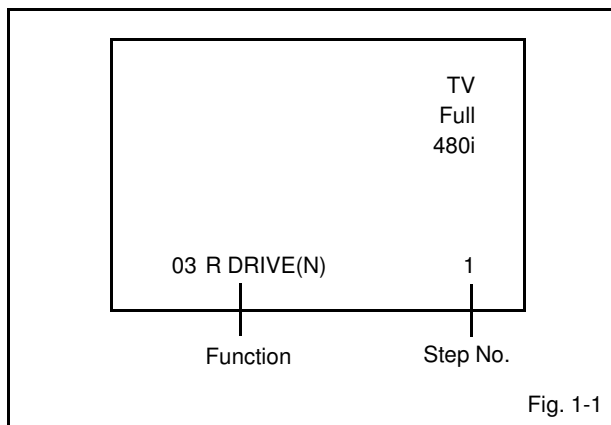

Fig. 1-1
2. Press the VOL. DOWN button on the set and the channel button (**9**) on the remote control for more than 2 seconds to display adjustment mode on the screen as shown in **Fig. 1-1**.
5. Activate the adjustment mode display of **Fig. 1-1** and press the channel button (**03**) on the remote control to select "R DRIVE (N)".
6. Press the UP/DOWN button on the remote control to select the "R CUTOFF (N)", "B DRIVE (N)", "B CUTOFF (N)", "R DRIVE (C)", "R CUTOFF (C)", "B DRIVE (C)", "B CUTOFF (C)", "R DRIVE (W)", "R CUTOFF (W)", "B DRIVE (W)" or "B CUTOFF (W)".
7. Adjust the LEFT/RIGHT button on the remote control to whiten the R DRIVE (N), R CUTOFF (N), B DRIVE (N), B CUTOFF (N), R DRIVE (C), R CUTOFF (C), B DRIVE (C), B CUTOFF (C), R DRIVE (W), R CUTOFF (W), B DRIVE (W) and B CUTOFF (W) at each step tone sections equally.
4. Activate the adjustment mode display of **Fig. 1-1** and press the channel button **(32)** on the remote control to select "BRIGHTNESS CENT".
10. Activate the adjustment mode display of **Fig. 1-1** and press the channel button **(32)** on the remote control to select "BRIGHTNESS CENT".
16. Activate the adjustment mode display of **Fig. 1-1** and press the channel button **(32)** on the remote control to select "BRIGHTNESS CENT".
22. Activate the adjustment mode display of **Fig. 1-1** and press the channel button **(32)** on the remote control to select "BRIGHTNESS CENT".
27. Activate the adjustment mode display of **Fig. 1-1** and press the channel button **(32)** on the remote control to select "BRIGHTNESS CENT".
4. Activate the adjustment mode display of **Fig. 1-1** and press the channel button **(51)** on the remote control to select "CONTRAST MAX".
10. Activate the adjustment mode display of **Fig. 1-1** and press the channel button **(51)** on the remote control to select "CONTRAST MAX".
16. Activate the adjustment mode display of **Fig. 1-1** and press the channel button **(51)** on the remote control to select "CONTRAST MAX".
22. Activate the adjustment mode display of **Fig. 1-1** and press the channel button **(51)** on the remote control to select "CONTRAST MAX".